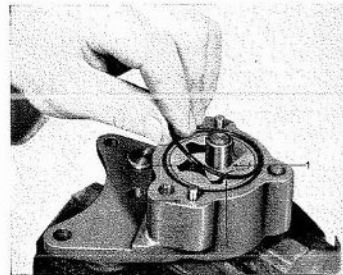

Fig. P.5.
7. Remove the "O" sealing ring from the pump body. See Fig. P.5.